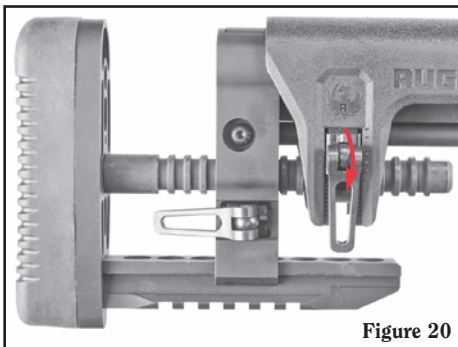

Figure 20
4. Lock the cam lever (see Figure 20).
- Make sure both cam levers are locked (see Figure 20, p. 27).